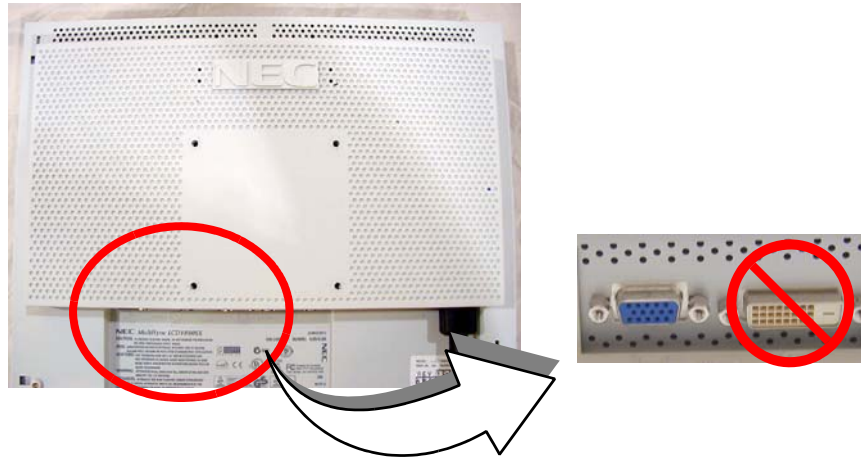

Figure D-7 Image Monitor (Your actual monitor may appear different from picture.)
- 2.) With the monitor and computer switched off, remove the video cable from the back of the image monitor. See Figure D-7. (The monitor shown below may appear different from the one you have.) Remove this cable from the HP computer video connector. Discard this cable. If the monitor has BNC connectors, remove them.